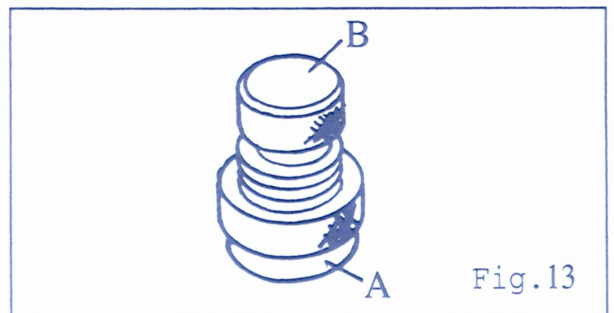

Fig.13
2. To increase the pressure of Presser Foot, to turn Adjusting Screw (B) clockwise after loosening Lock Nut (A) and to decrease the pressure turn Screw (B) counterclockwise. (Fig 13).